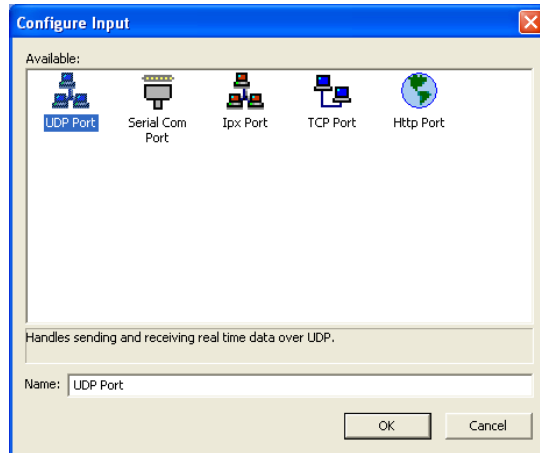

Figure 9: *Configure Input*
4. In the *Configure Input* window (*Figure 9*):